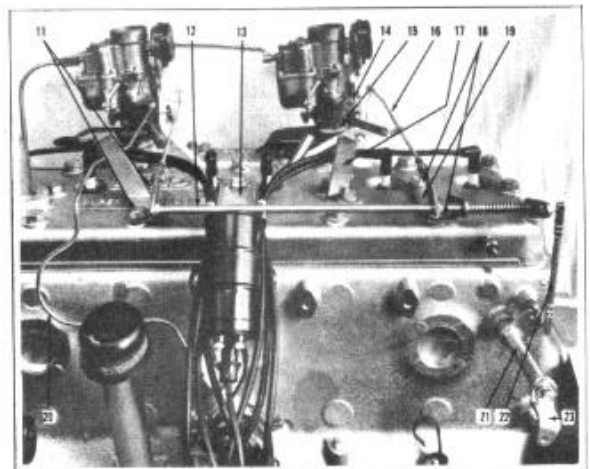

FIGURE 101
2. Install the throttle shaft assembly (24) to cylinder head by removing the four cylinder head bolts shown in Figure 101, placing throttle shaft brackets (25) on cylinder head and re-installing head bolts, torquing to 65 ft. lbs.
8. Install accelerator pedal link bellcrank assembly (28), Figure 101, to bellcrank shaft on engine block and hook up throttle shaft operating rod assembly (29) from bellcrank to throttle shaft assembly (24).